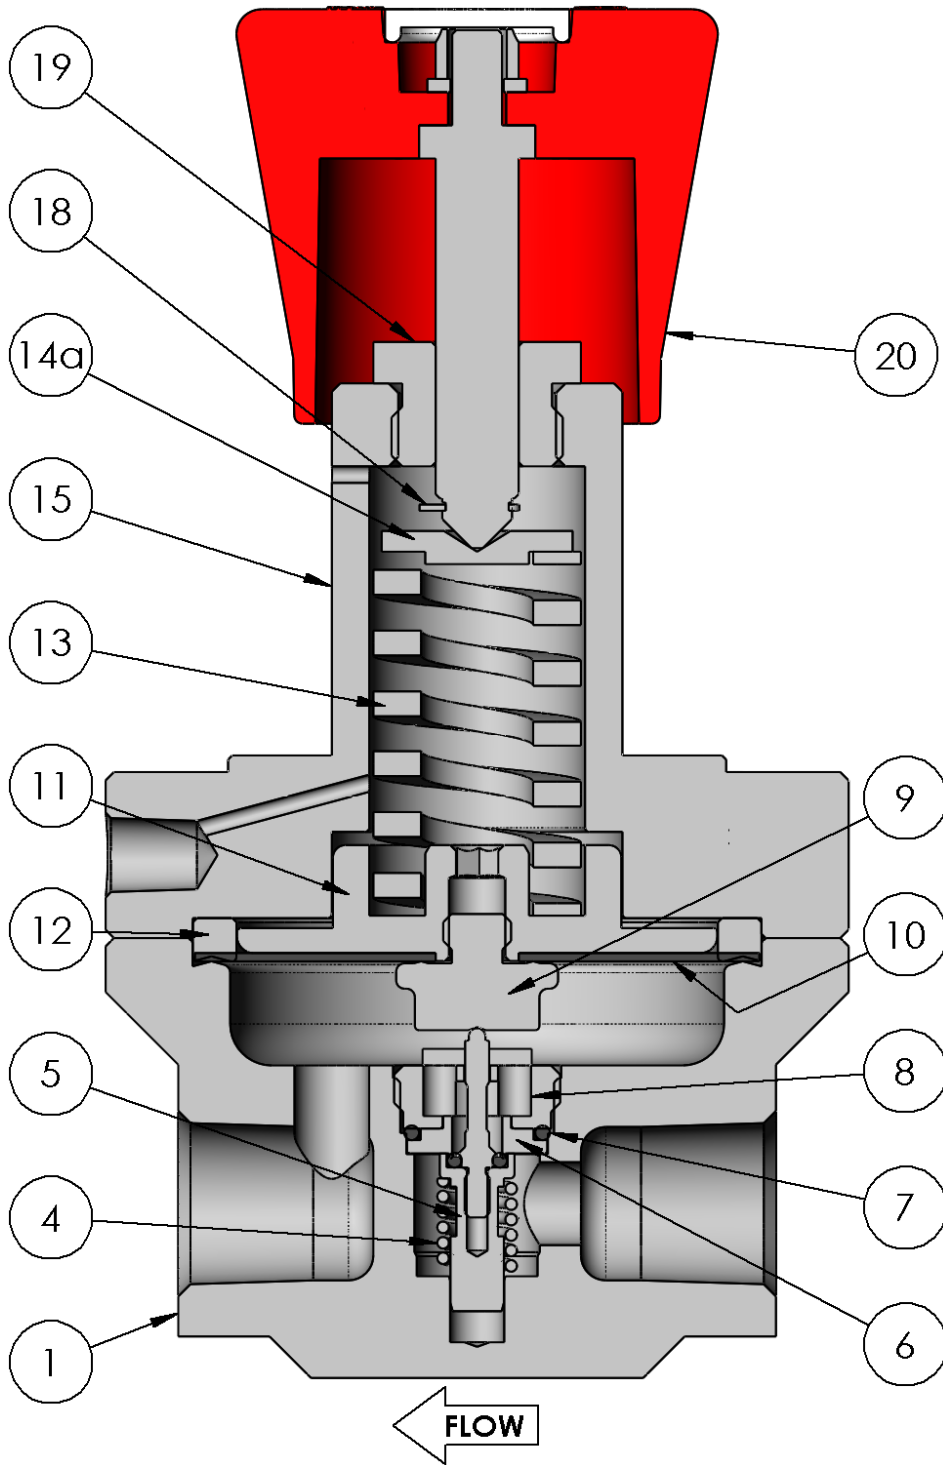

Fig 2
1. Secure the body (1) in a vise.
2. Insert the poppet spring (4), poppet (5), seat (6), and seat O-ring (7) into the body. Ensure correct orientation of the seat per Fig 2 and that no damage occurs to the sealing surface.
3. Lightly lubricate the seat retainer threads (8) and install into the body (1) using the seat retainer insertion tool. Torque to 3.7 lbf-ft (5 N·m).
4. Lightly lubricate the diaphragm screw threads (9). Fit the diaphragm (10) onto the diaphragm screw (9) then screw this into the bottom spring guide (11). For PTFE lined diaphragms the PTFE side must face away from the spring guide. Torque to 7 lbf-ft (10 N·m).
5. Insert the sensing assembly into the body (1). Orient per Fig 2.